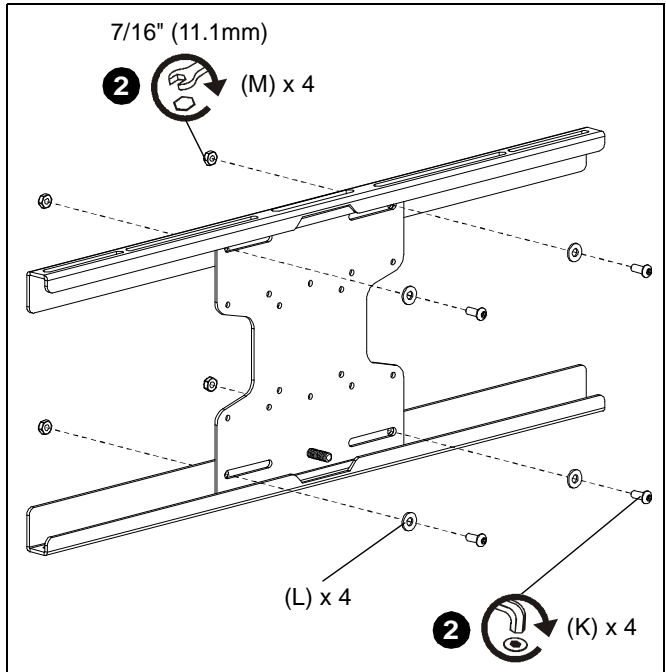

Figure 8
- Using hex key (H), install four 1/4 x 5/8" button head cap screws (K) through four 1/4" washers (L), faceplate (E), faceplate brackets (B), into four 1/4" nuts (M). Tighten securely. (See Figure 8)